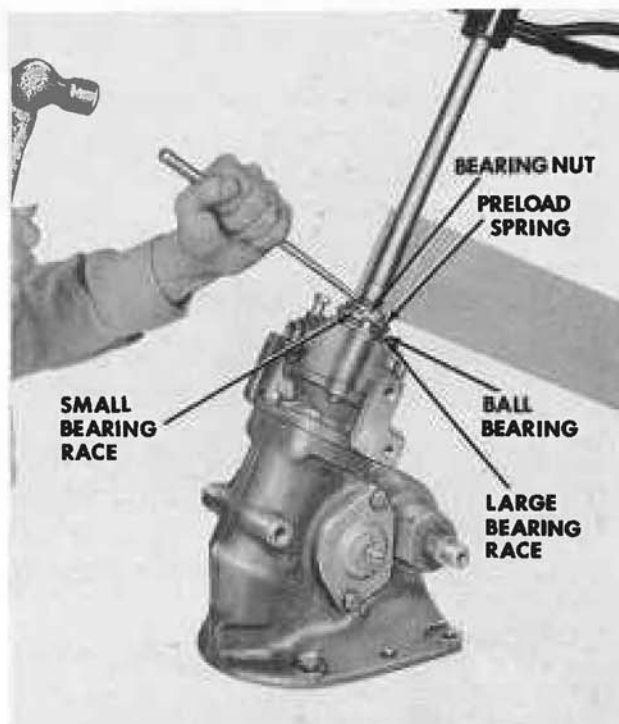

Figure 19 - Staking the Thrust Nut to the Steering Shaft
8. Grip the steering wheel to prevent the shaft from turning and tighten the lock nut until it seats firmly against the valve spool. Back the nut off about 1/6 turn and stake the nut to the groove in the shaft. Support the shaft from the opposite side of the groove as shown in Figure 19 while staking the nut in order to prevent damage to the shaft.